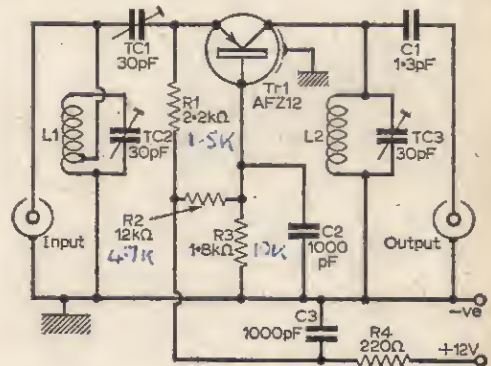
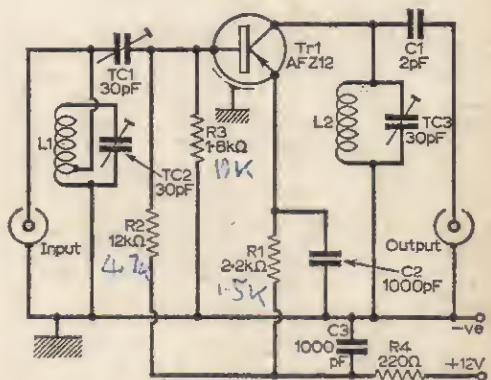

Fig. 1—The Mullard AFZ12 transistor used in grounded base mode as a preamplifier.
Fig. 2—The grounded emitter circuit for the preamp.
- C1 1.3pF (Fig. 1) 2pF (Fig. 2)